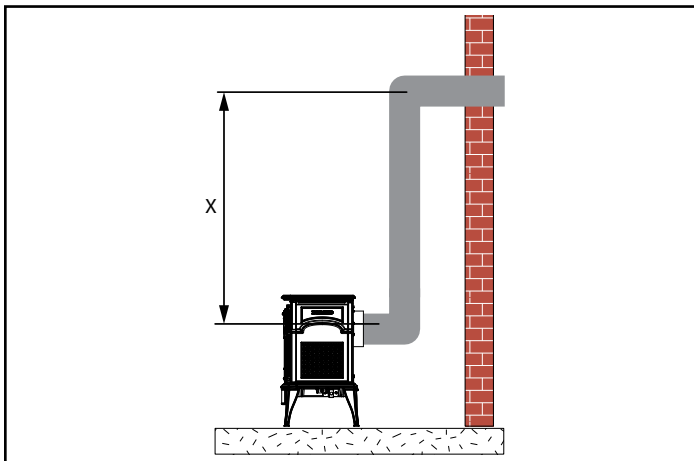

Figure 3.11 - Vertical Height Requirements
3. Place stove into position. Measure the vertical height (X) required from the base of the flue collars to the center of the wall opening, Figure 3.11.